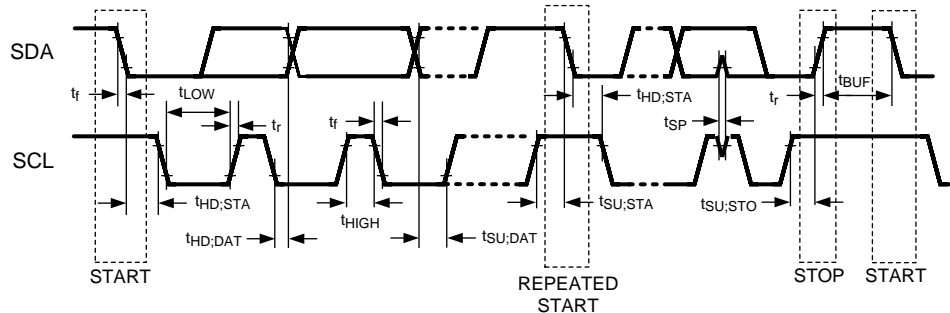

Figure 5. Serial Control Bus Timing
**Bi-Directional Control Bus AC Timing Specifications (SCL, SDA) - I2C Compliant (Figure 5)**
**Bi-Directional Control Bus AC Timing Specifications (SCL, SDA) - I2C Compliant (Figure 5) (continued)**